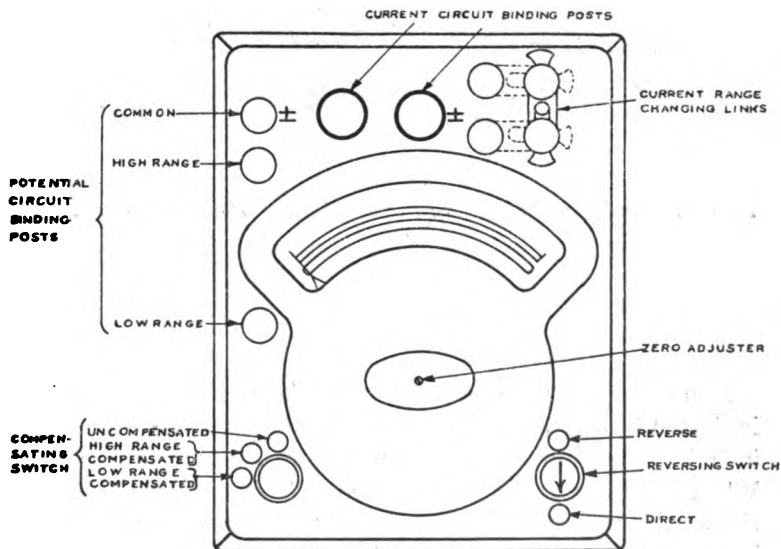
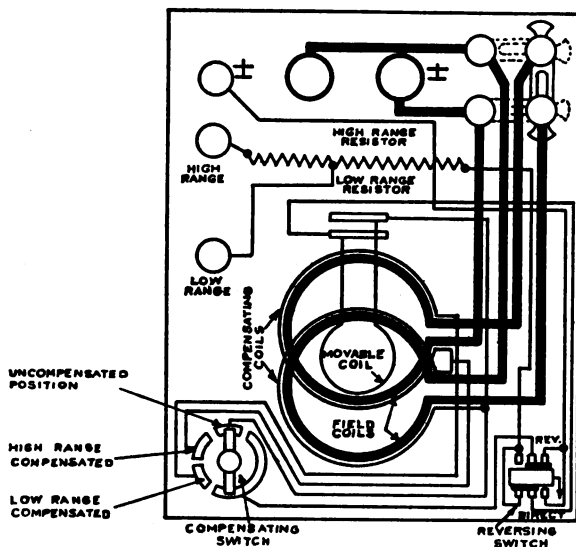

Figure 3
Figure 4
**GENERAL ARRANGEMENT** Figure 3 shows the general arrangement of the binding posts, compensating switch, reversing switch, etc. Figure 4 shows the relation between the internal connections and binding posts, etc.
*Note:* Figures 3 and 4. When the links are in the position indicated by full lines the sections of the field are connected in series and the instrument is ready for use on the low range. When the links are in the position indicated by dotted lines the sections of the field are connected in multiple and the instrument is ready for use on the high current range.
**COMPENSATING SWITCH** The compensating switch (Figure 3, page 11) is capable of being set at three different positions. (1) The position for using the instrument uncompensated, in which condition its connections are the same as for the Model 310 Wattmeter, Form 1; (2) the position for using the instrument compensated for the high current range, and (3) the position for using the instrument compensated for the low current range.